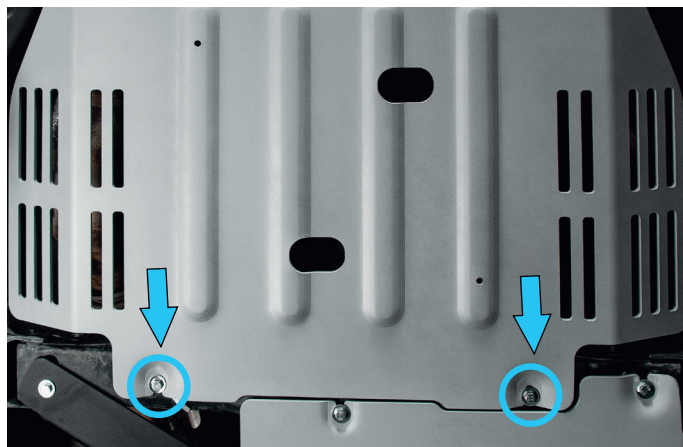

Fig. 3
3. Attach skid plate (item 1) on bolts M8x25 (item C), as shown in fig.3.